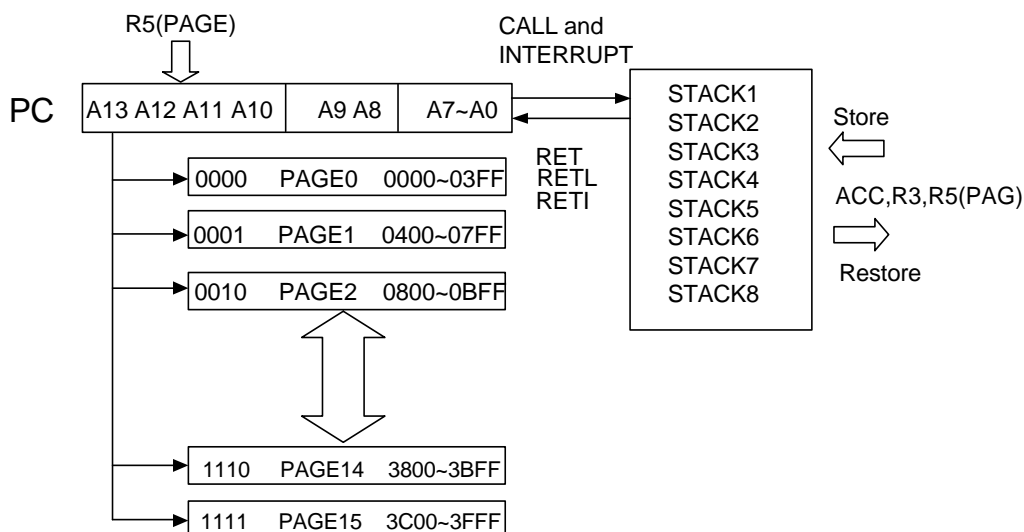

Fig. 4 Program Counter Organization
- The structure is depicted in Fig. 4 below.